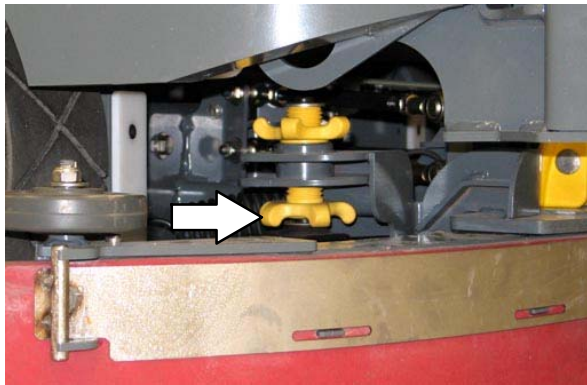

FIG. 15
- Turn the adjustment knobs clockwise to increase deflection or counterclockwise to decrease deflection. (Fig. 15)